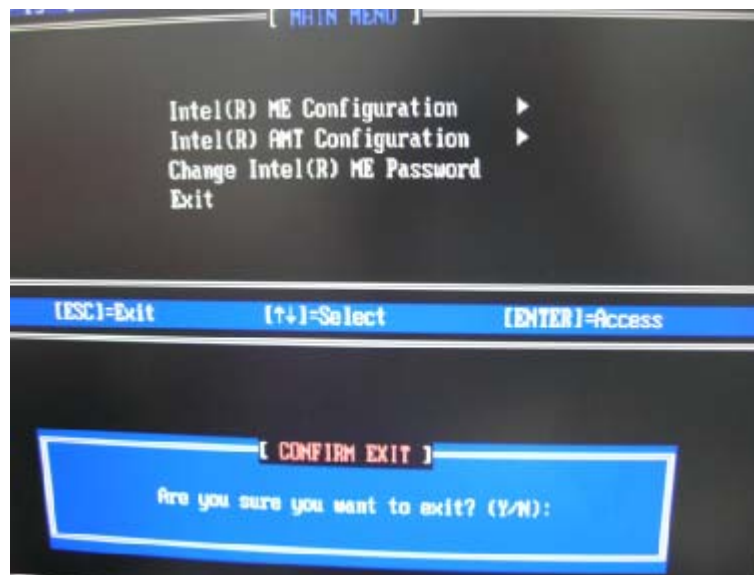

Figure 8-10: Exit
Step 12: To exit the Intel® MEBx, return to the main menu and select **Exit**. (Figure 8-10)